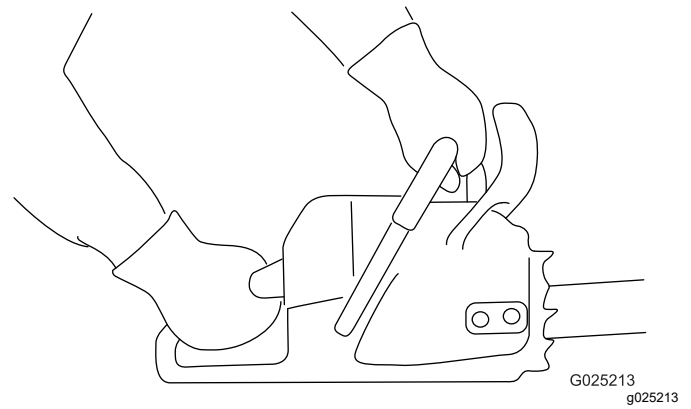

Figure 11
1. Grip the chain saw with 2 hands, with your left hand on the front handle and your right hand on the rear handle as shown in Figure 11.
1. Grip the chain saw as shown in Figure 11.
- Grip the chain saw as shown in (Figure 11).